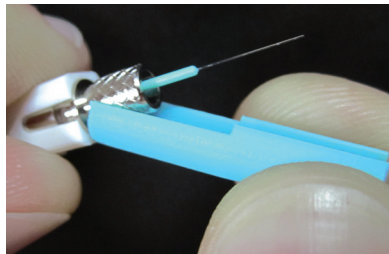

Figure 1
**3. While holding the connector firmly, pull down on the cleave protector to remove it from the connector (Figure 1).**